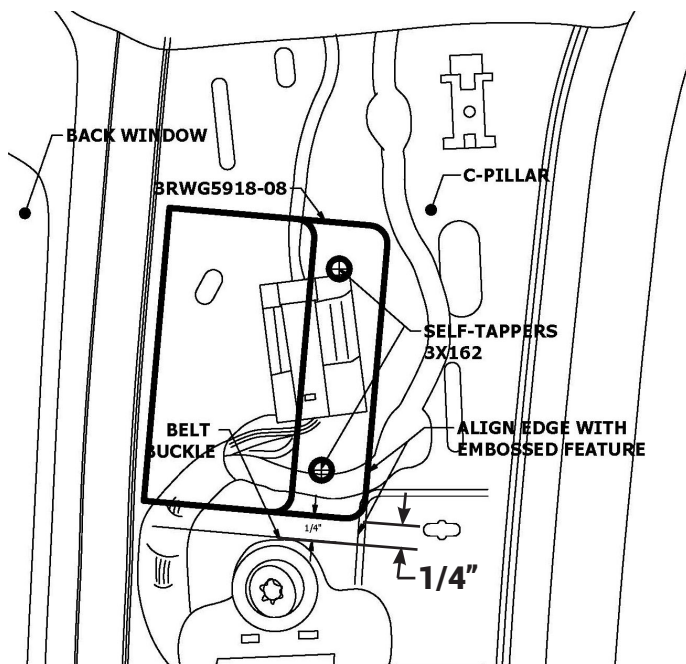

Fig. 8
- D. Pull out wiring harness retaining clip and locate C-pillar bracket (3RWG5918-08) as shown in Fig. 8.